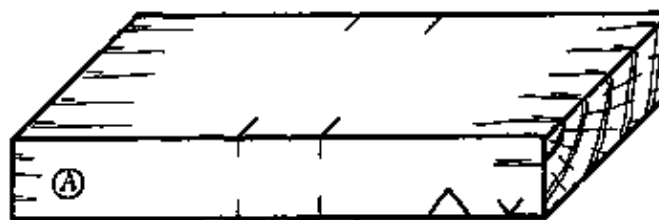

Fig. 3
– Take piece A and mark out the position of the mortice on the face edge and make square lines on the edges on both sides with the try square (Fig. 3).